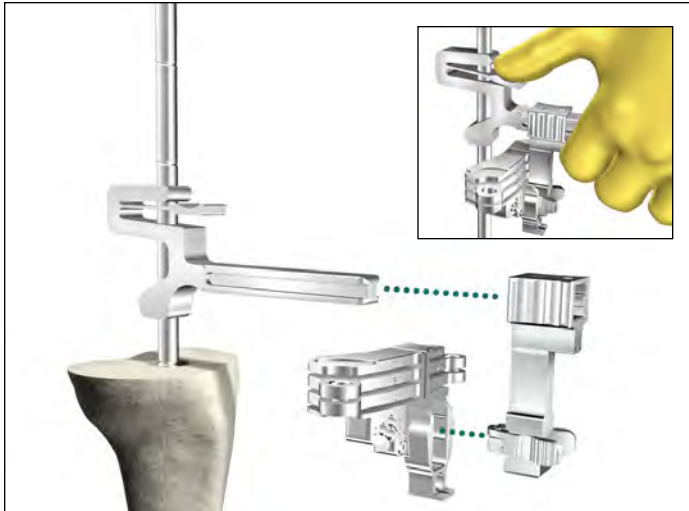

Figure 9
- Slide the Resection Guide Tower over top of the IM Reamer by depressing the finger tab as shown (**Figure 9 inset**). Assemble the Revision Tibial Resection Guide to the Support Arm Assembly. Slide the assembly on to the Resection Guide Tower. Set distal/proximal resection level and rotation by depressing the finger tab on the Resection Guide Tower.